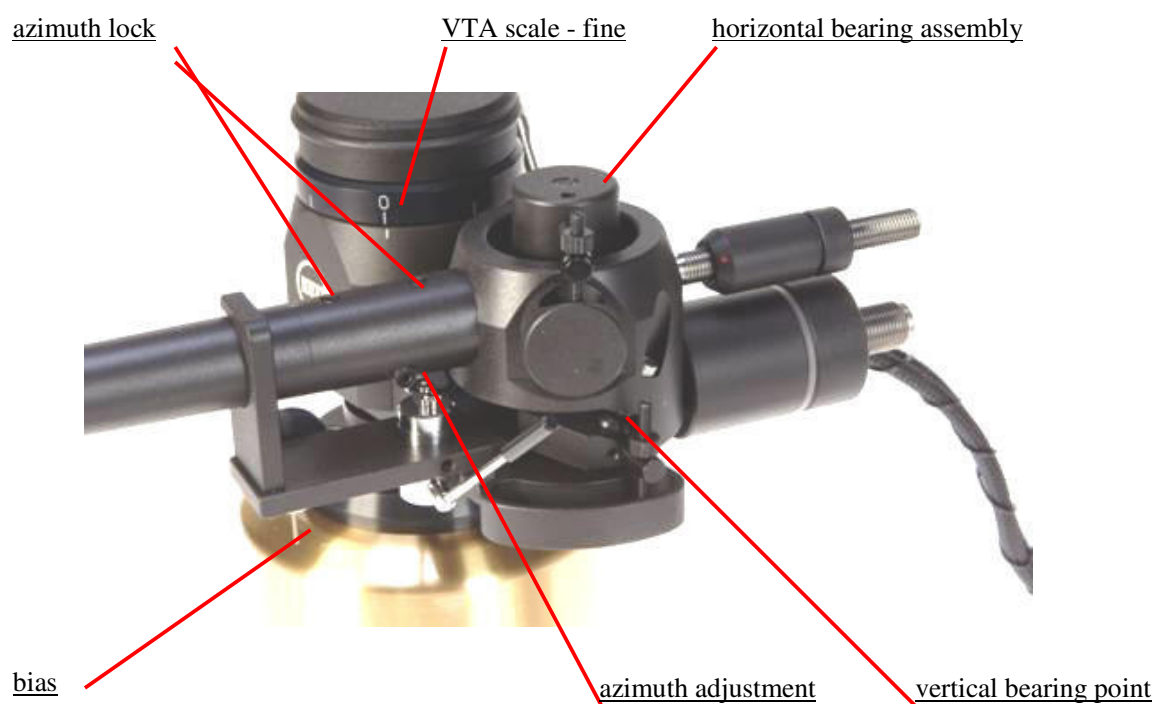

Fig. 2
The horizontal bearing assembly is permanently mounted on the main VTA arm tower. This is blocked during transport. (Fig. 2)
(Fig. 2&4)
Fix cartridge pins. Add counterweights to the lower threaded carrier, starting with the longest counterweight, then a plastic ring and another counterweight, until the tonearm is roughly balanced. Be sure to fit the plastic rings that separate counterweights and, at the same time, allow them to fit together. (See Fig.2 and counterweight configuration)
If this is too loose, hold the front part of the counterweight and rotate the rear part until there is a tighter fit, or lock it into position on the threaded carrier. Opposite rotation will make the smaller counterweight looser. (Fig. 2)
To make azimuth adjustments, release the two screws locking the mechanism at the centre top of the main tonearm tube, with Allen key 2mm. Under the main tube is a tiny rod with a hexagonal screw. Insert the Allen key 2 mm into the screw (it may feel loose), rotate it slightly and it will alter the azimuth. (Fig.2)